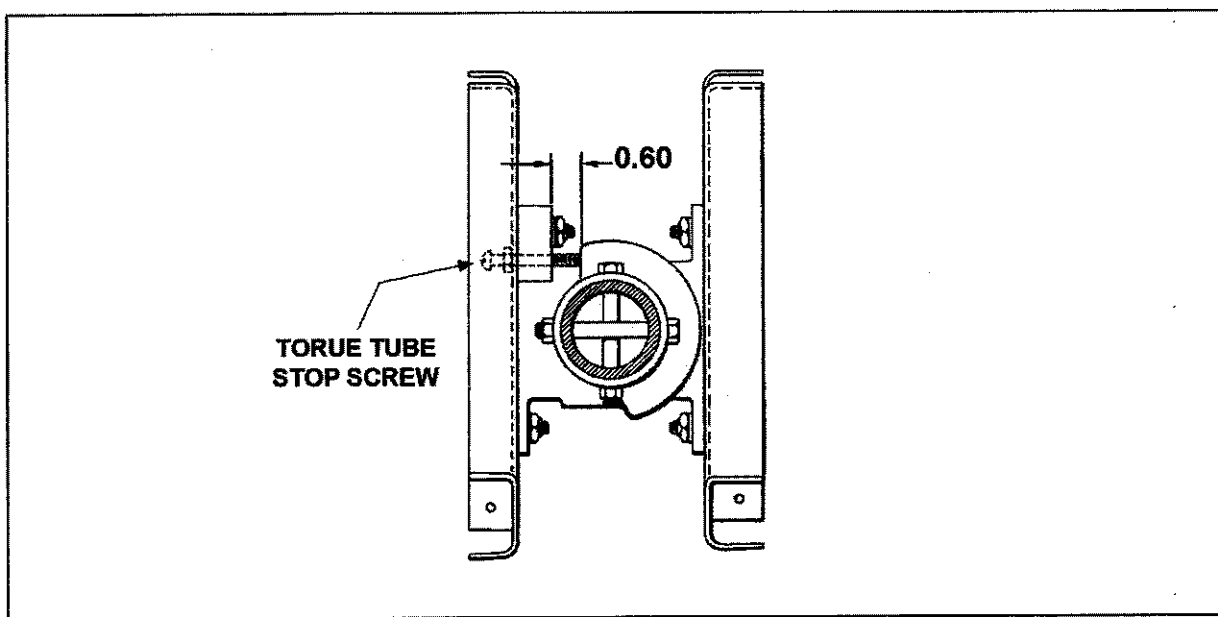

Figure 27-28 Flap Stop Adjustment
- (1) Loosen jam nut of right torque tube stop screw located in floor opening along outer end of flap torque tube.
- (2) Turn stop screw to approximately 0.60 inch between stop fitting and bearing block, as measured along top side of screw. (Refer to Figure 27-28) (It may be necessary to loosen left stop adjustment screw.
- (3) Place a 0.125 inch spacer between stop fitting and end of screw.